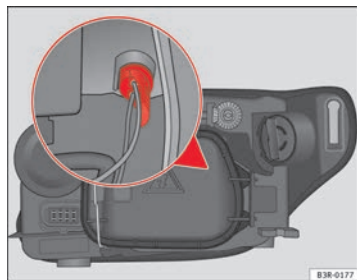

Fig. 223 Side light
- Remove the bulb holder by pulling on the grip ⇒ fig. 223 (it can also be removed by pulling on the bulb holder wires).